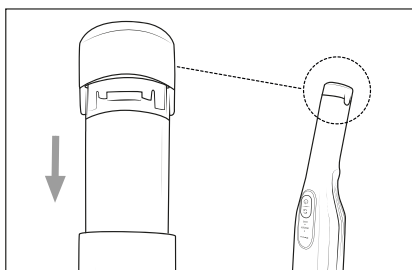

Fig. 3
- 3) Push the battery **1** into the appliance until it is firmly seated (see Fig. 3).